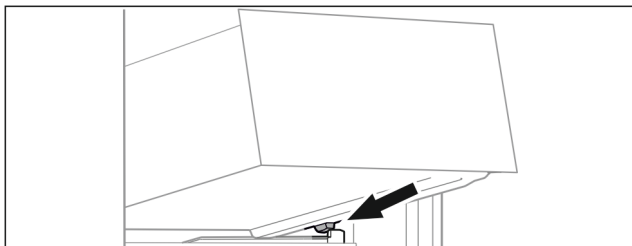

Fig. 97
- ▶ Place drawer at an angle behind the stoppers on the molded rib. (see Fig. 97)